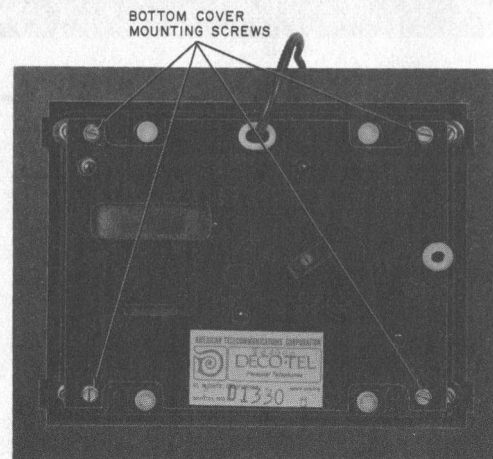
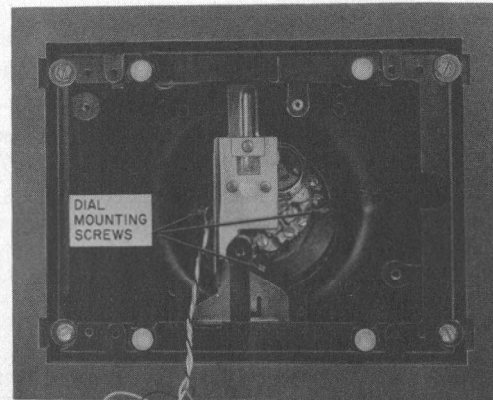

Fig. 6—881A102, 881A103, or 881A104 Telephone Set, Bottom View
Fig. 8—Removing Dial
- (1) Remove four bottom cover mounting screws from bottom of telephone set and remove bottom cover (Fig. 6).
- (3) Remove three dial mounting screws and remove the rotary dial (Fig. 8).
- (4) Unscrew transmitter and receiver caps and remove T1 transmitter and LB1 receiver units.
- (5) Replace bottom cover (Fig. 6).